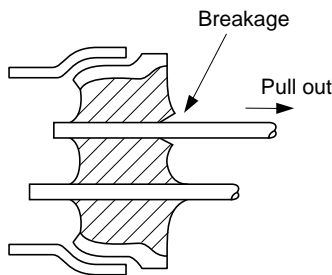

Figure 3
- (1) **DO NOT** pull the lead excessively if unbending a lead or removing a crystal unit. The excessive force may crack the glass and reduce the degree of vacuum. This may eventually result in deterioration of the characteristics and may also break the crystal chip (see Figure 3).